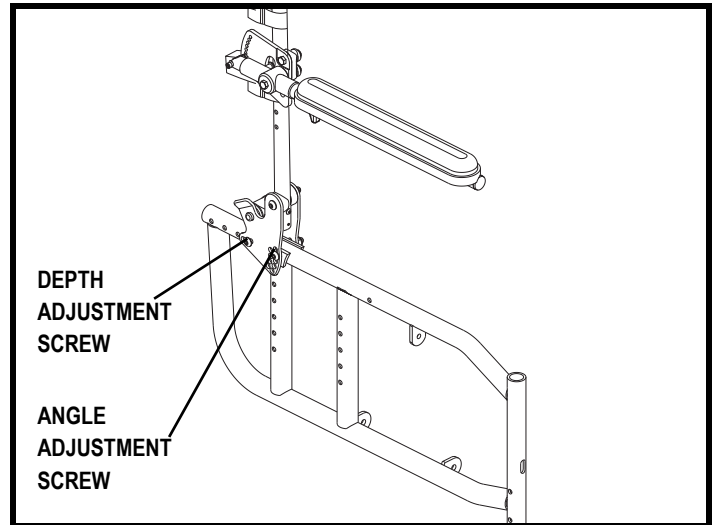

Figure 18. Side Frame Depth Adjustment
1. Remove the depth adjustment screws and angle adjustment screws that attach the back cane to the side frame on both sides of the wheelchair. See **figure 18**.